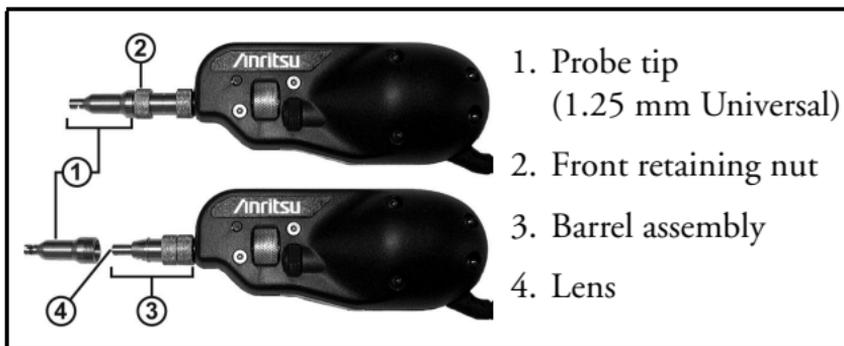

Figure 5-3: VIP with Universal 1.25 mm Tip
If a probe tip is already attached, loosen the front retaining nut (see item 2 in Figure 5-3) until it slides freely on the Barrel assembly (see item 3 in Figure 5-3).
Do not touch the lens surface (see item 4 in Figure 5-3).